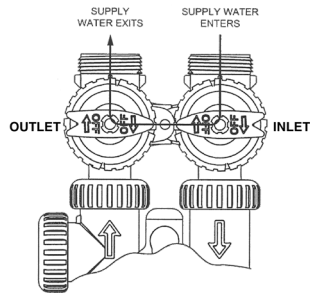

FIG. 3
- 3. Fill Position**— During initial start up, the media tank will need to be filled with water. Slowly open the inlet handle to be partially open; handle arrow should point at a 30°-45° angle from the closed position. The outlet handle should remain closed, pointing toward the center of the bypass. (See Fig. 3 below)
- **Slowly** rotate the inlet side of the bypass to the **FILL POSITION** shown in **Fig. 3** on page 4. Allow water to flow into the system until it exits out the drain line and becomes a gray-ish color.